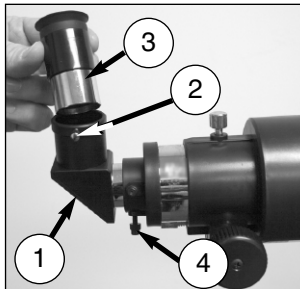
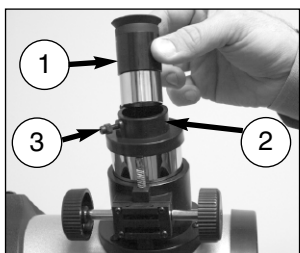

Fig. 9: Attach the diagonal prism (1), tighten prism thumbscrews (2), insert the eyepiece (3), tighten eyepiece thumbscrews (4) (Refractor models).
Fig. 10: Insert the eyepiece (1) into the eyepiece holder (2), tighten eyepiece thumbscrew (3) (Reflector models).
11. **Insert the eyepiece:** Remove the supplied eyepiece (3, Fig. 9) from its container and place it in the diagonal prism (*refractor models only*; 1, Fig. 9) or directly into the eyepiece holder (2, Fig. 10, *reflector models only*). Tighten the thumbscrews (2 and 4, Fig. 9, *refractor models only*) to a firm feel only. Tighten the thumbscrew (3, Fig. 10, *reflector models only*) to a firm feel only.